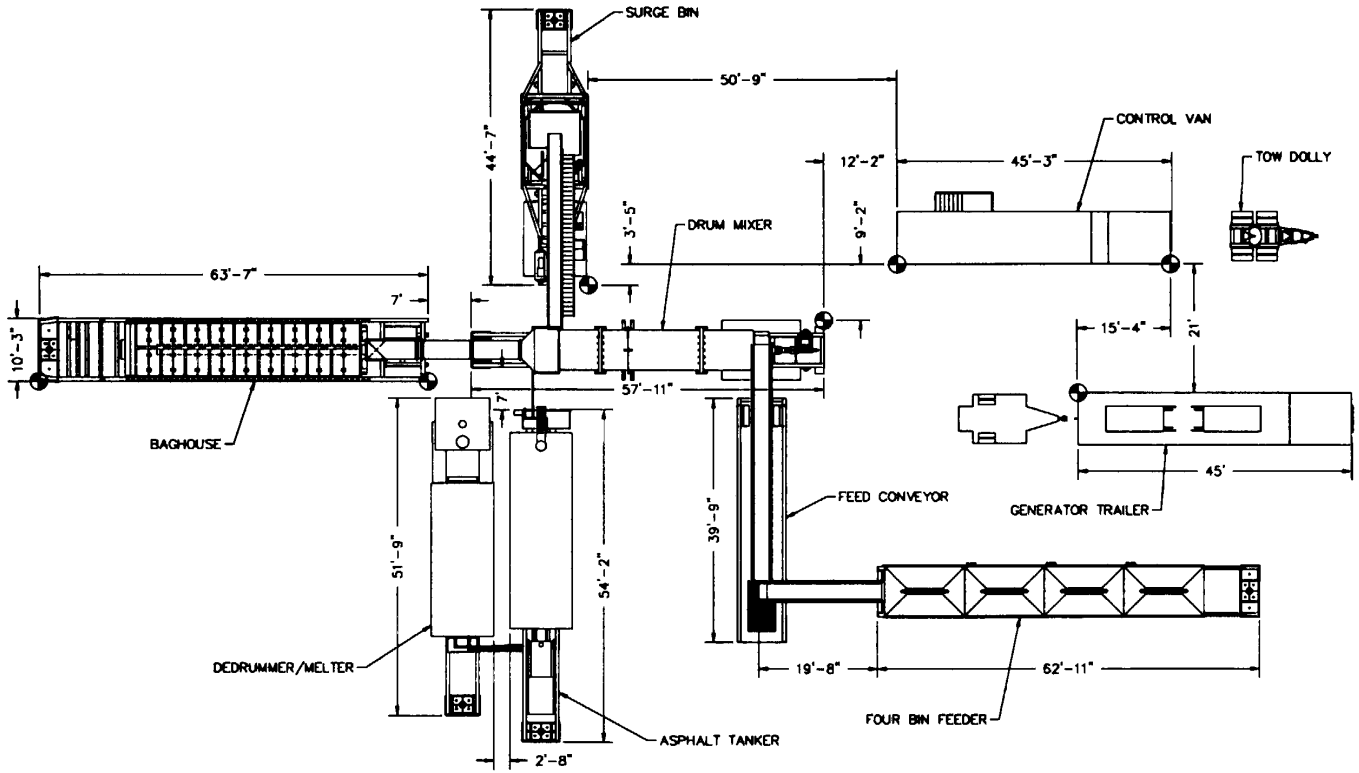
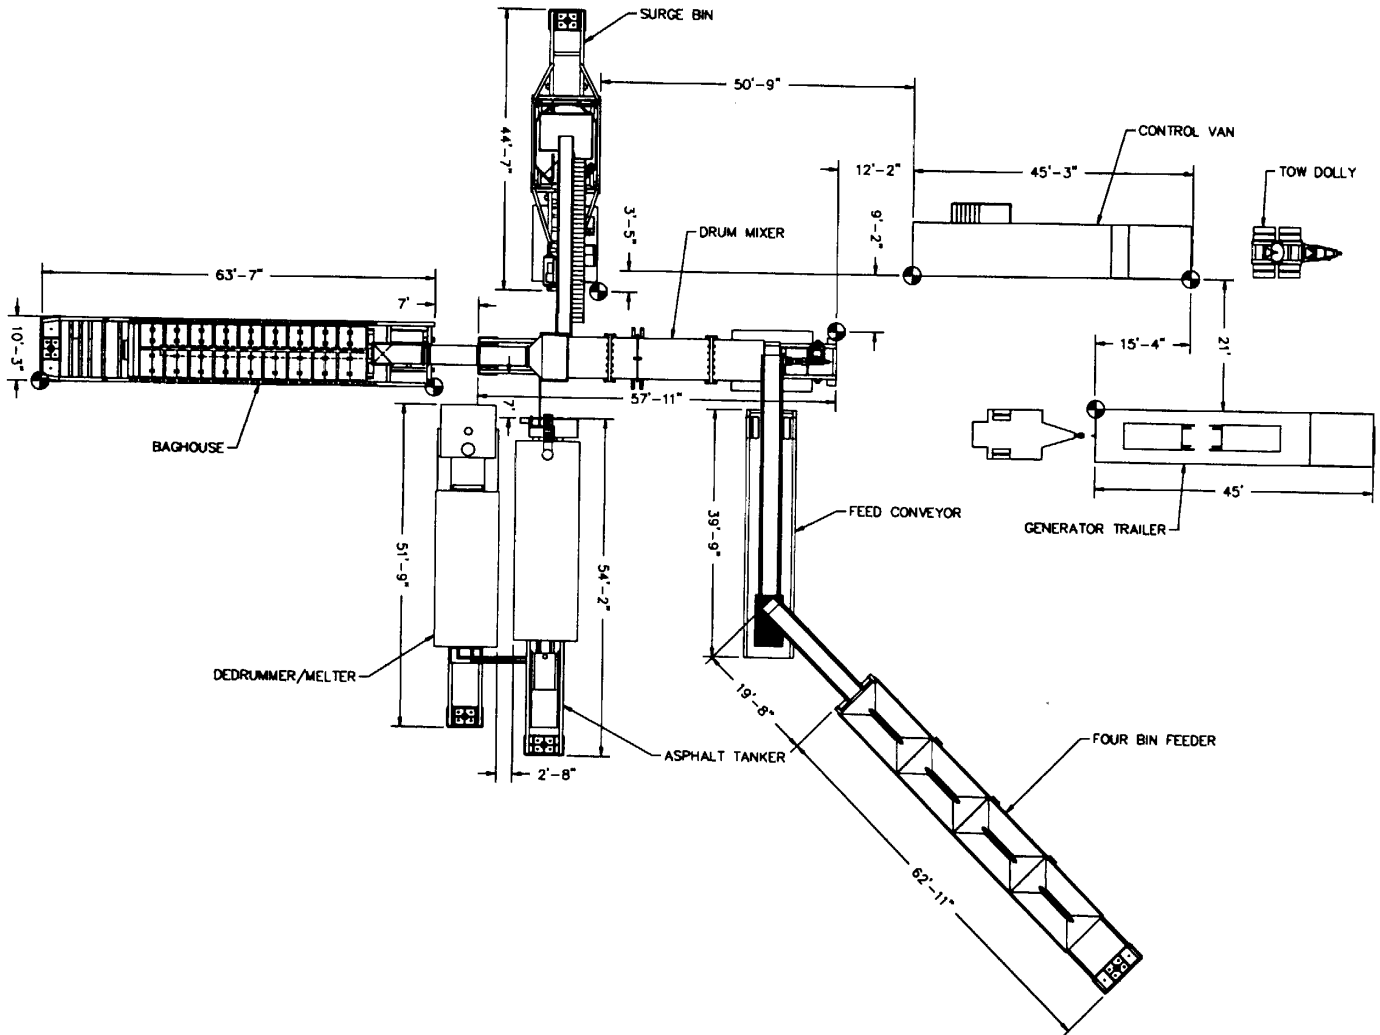

Figure 2-1. Plant Site Layout
Figure 2-2. Alternate Plant Site Layout
**A plant site layout figure 2-1 is included as is an alternate plant site layout figure 2-2.
Position the Control Van according to the site layout that has been determined. This trailer is used to position the generator trailers. Measure from the control van according to Figure 2-1 or 2-2. Keep the Control Van parallel to both generator trailers.
(See Figures 2-1 and 2-6)
(See Figures 2-1, 2-5 and 2-6)
(See Figures 2-1 and 2-7)
(See Figures 2-1, 2-8, 2-9, 2-10 and 2-11)
The Surge Bin should be staked prior to positioning it. Site along the right hand side of the Control Van and measure the correct distance to the Surge Bin according to the Layout Figure 2-1. Stake the rear corner of the Surge Bin. This trailer can be positioned. Keep the Surge Bin at a right angle to the Control Van.